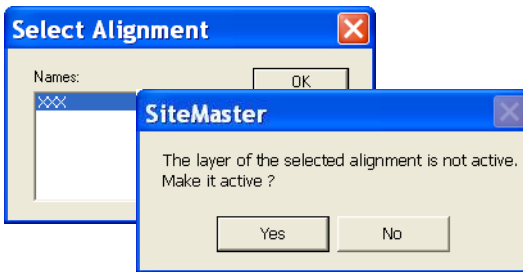

Figure 13-75. Select Alignment Dialog Box
- The *Select Assignment* dialog box appears (Figure 13-75).